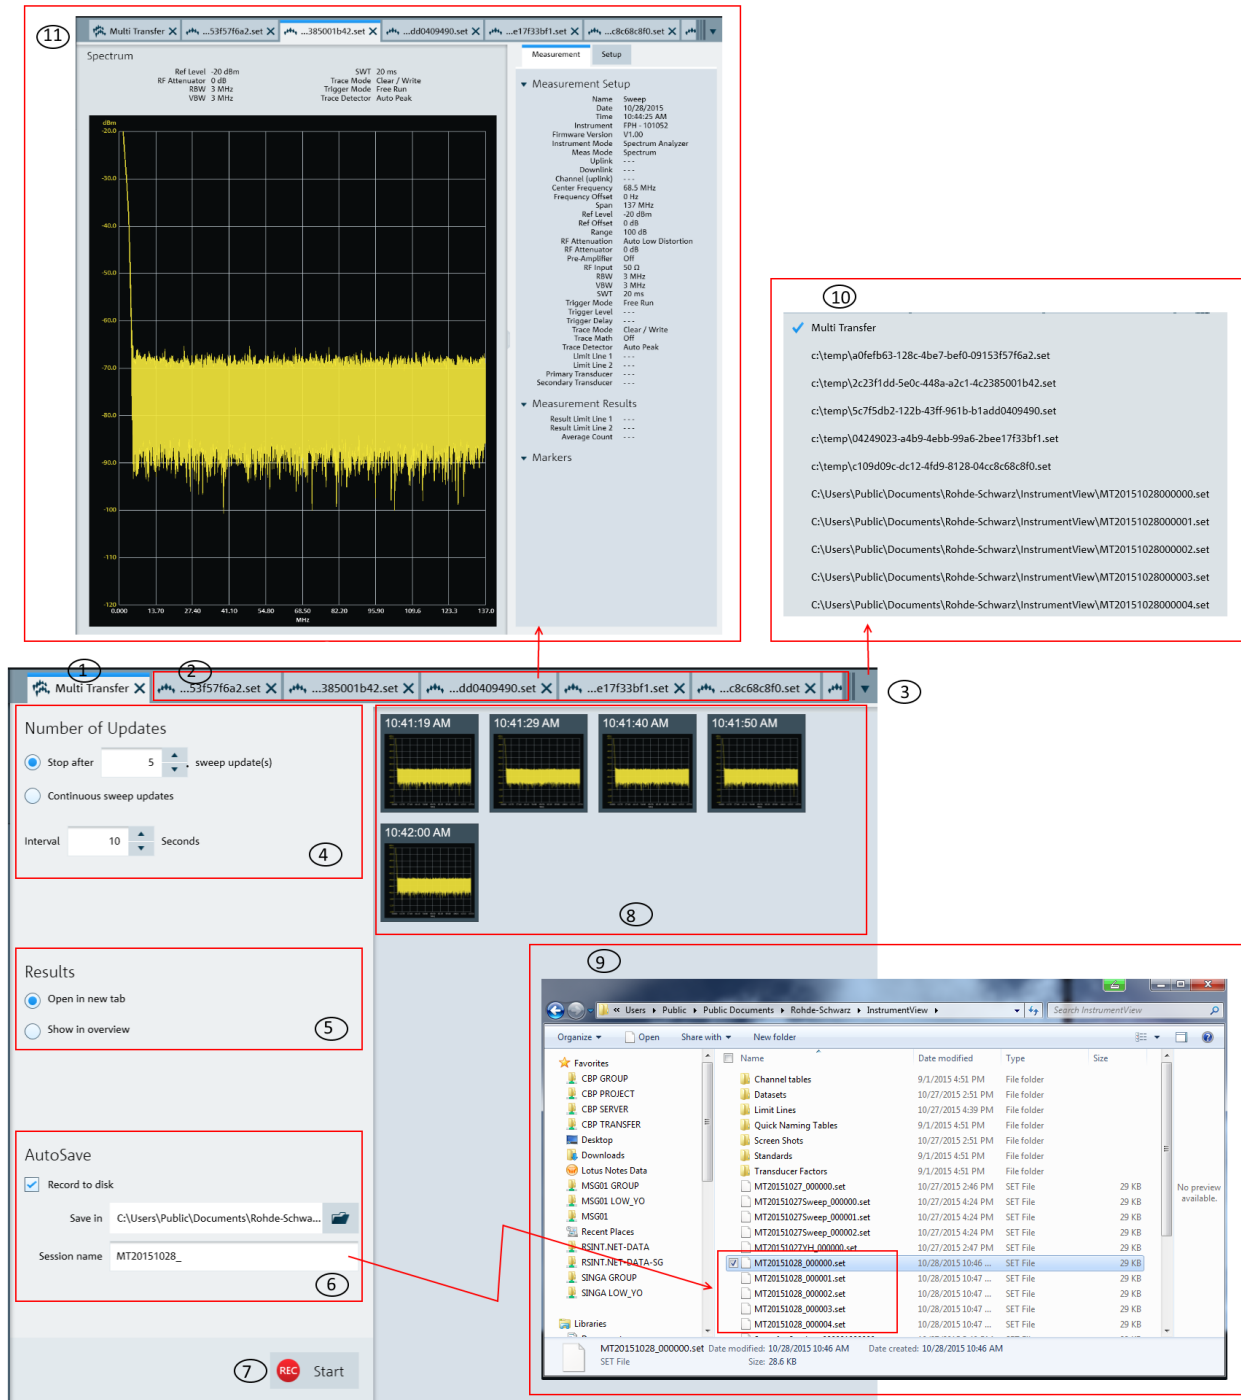

Figure 4-13: Multi-transfer dialog
"View" 	Views the details of the trace measurement file. For viewing, see Chapter 4.3, "Save Instrument" , on page 20 for a list of file format supported. When a file is selected to be viewed, a tab is displayed in the header bar of the screen layout. See index 11 of Figure 4-13 .
The "Multi Transfer" menu allows you to capture and save trace measurements from the instrument. See Figure 4-13.
- 2 = Measurement results tab (see index 11 in Figure 4-13)
- The trace measurement in the overview area. See index 8 in Figure 4-13.
- The individual trace measurement result in the "Tab header bar". See index 2 in Figure 4-13.
See index 11 in Figure 4-13.
See index 9 in Figure 4-13 to view the trace measurements captured in the file directory.
Depending on the setting in the "Results" section (see index 5 in Figure 4-13), the trace measurement updates can be displayed in the overview area (see index 8 in Figure 4-13) or individually displayed as a new tab in the tab header bar (see index 2 in Figure 4-13).